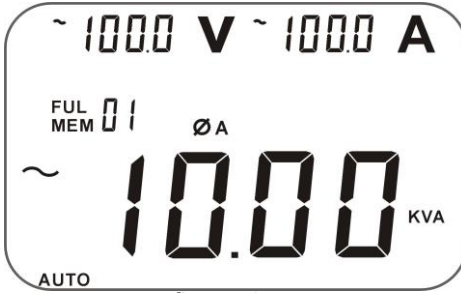

figure 17
4. When measuring 3 phase 4 wires:(see figure 17, 18, 19)
- Press **SELECT** to choose the first phase **A**, see figure 17.